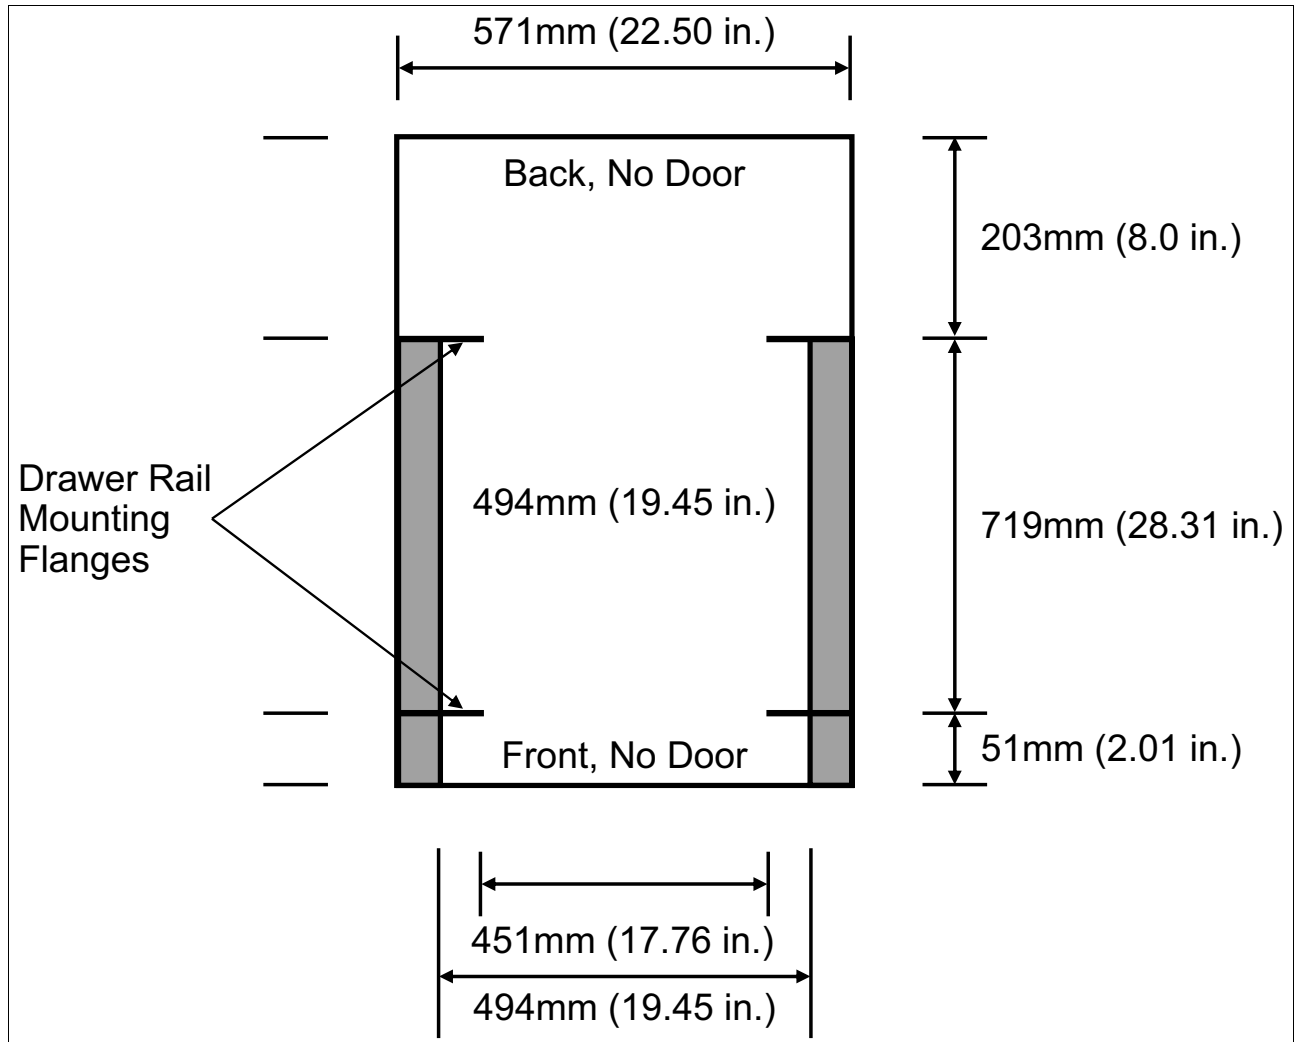

Figure A-3 Top view of rack specification dimensions (not specific to IBM)
- The front rack opening must be 451 mm wide  $\pm 0.75$  mm (17.75 in.  $\pm 0.03$  in.), and the rail-mounting holes must be 465 mm  $\pm 0.8$  mm (18.3 in.  $\pm 0.03$  in.) apart on-center (horizontal width between the vertical columns of holes on the two front-mounting flanges and on the two rear-mounting flanges). Figure A-3 is a top view that shows the specification dimensions.